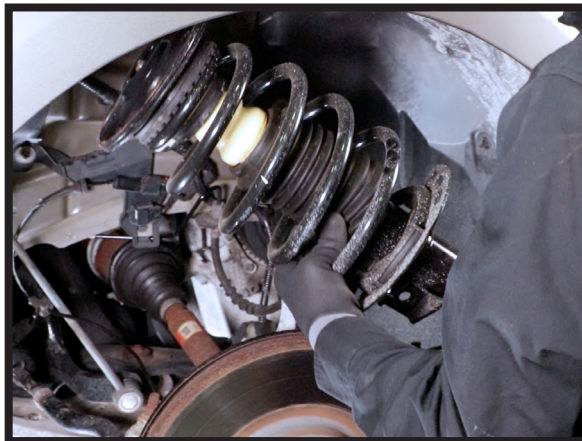

FIGURE 15
9. REMOVE OLD SHOCK FROM THE VEHICLE. (FIGURE 15)